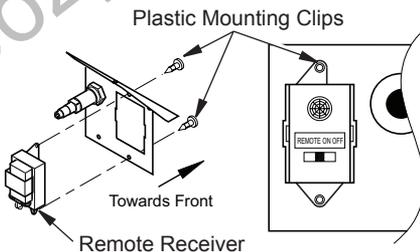

Figure 46 - Mounting Remote Receiver to Bracket
6. Use clips to mount receiver on remote mounting bracket as shown in Figure 46.